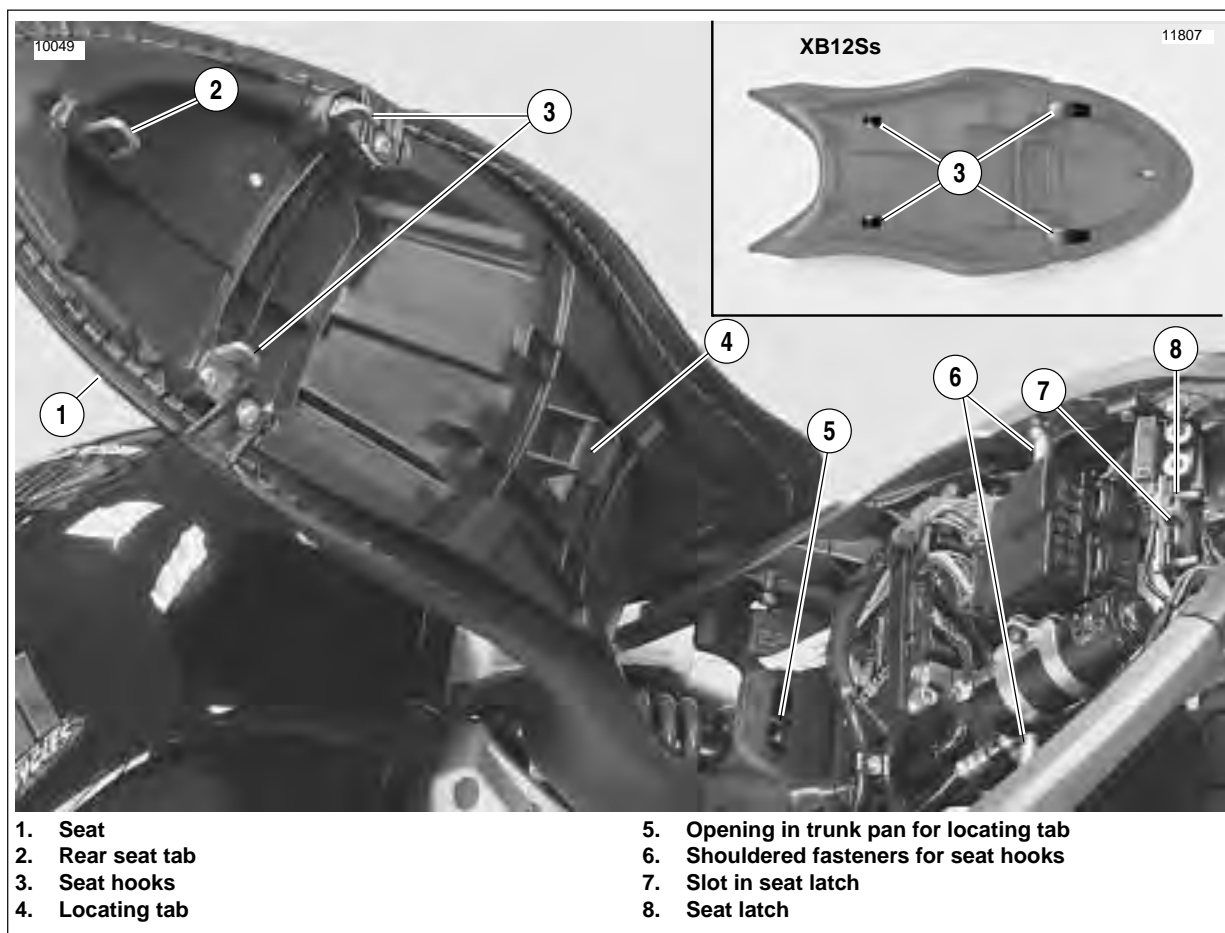

Figure 2-129. Seat and Attachment (Inset XB12Ss seat)
See Figure 2-129. The seat anchors in three places on the vehicle. The first is where the locating tab (4) on the seat inserts into the opening on the trunk pan (5). The second is the pair of seats hooks (3) that slide onto the shouldered fasteners (6) located in the left and right tail sections. The last is the rear seat tab (2) which fits into the slot (7) on the seat latch (8).
1. See Figure 2-129. Insert ignition key into seat lock located on left side of motorcycle below seat.
3. Lift and remove seat (1).